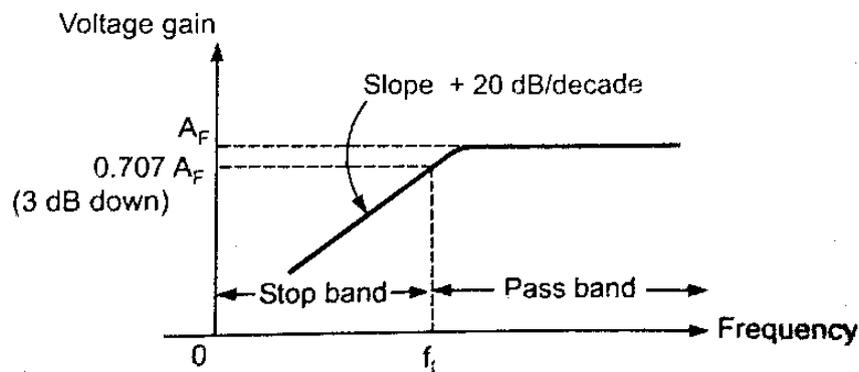

Fig. 3.14 Frequency Response
- The frequency response is shown in the Fig.3.14.